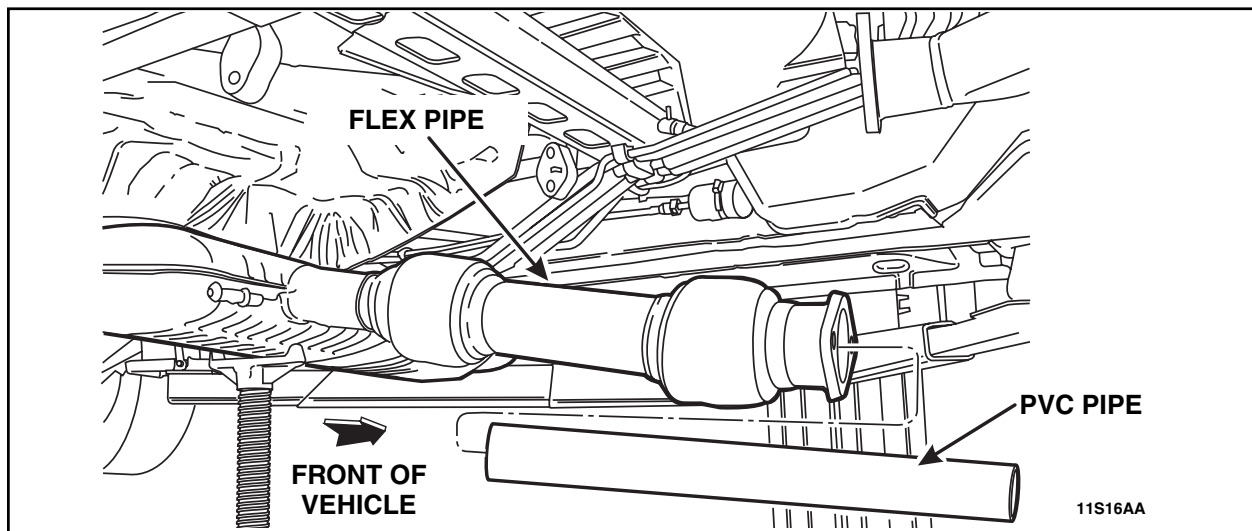

FIGURE 6
- If special tool 309-001 is not available, insert a 71 cm (28 in) length of 31.75 mm (1.25 in) diameter PVC pipe into the flex pipe after the flex pipe has been separated from the dual converter Y-pipe. This will prevent excessive movement and/or damage. See Figure 6.